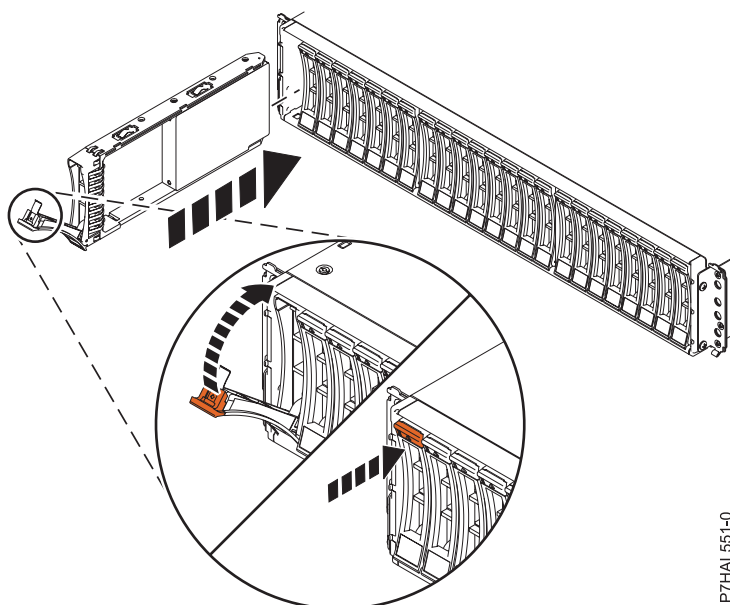

Figure 18. Installing the disk drive in the 58/87 disk drive enclosure
1. With the handle in the unlocked position, as shown in Figure 18, support the bottom of the drive as you align it with the guide rails in the expansion unit.